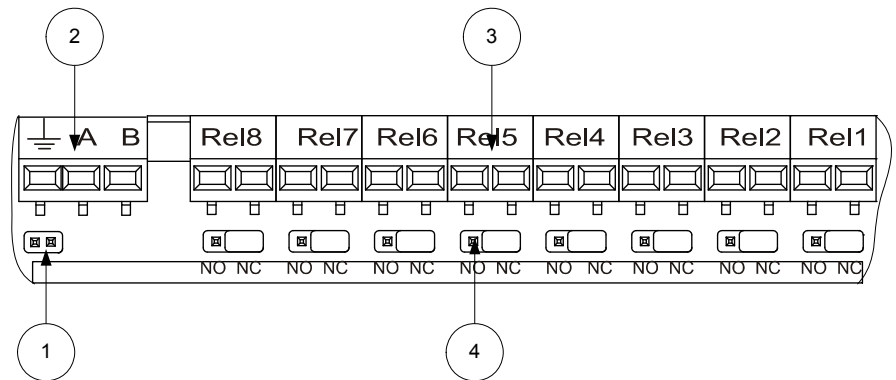

Fig.2
1.2. Configure the jumpers of the relay contacts by means of pincers (normal open or normal close) depending on the specific project, pos. 4 (fig. 2).
- if the connected fire control panel is the first or the last one in the created local network, switch the jumper in the module, pos. 1 (fig. 2). The module is delivered with switched terminating jumper;
3.2. The wires of the local network are connected to terminals “A” and “B” of the extension module, pos. 2 (fig. 2).
3.3. Connect the circuits of the monitored devices to the fire condition relays, pos. 3 (fig. 2), according to the specific project.